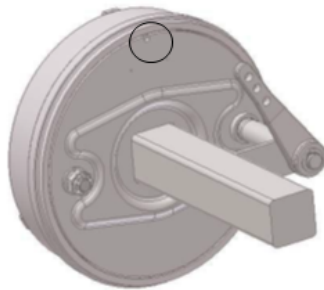

Figure 68 — Brake Inspection Window
- Check the brake clearance and the wear between the linings and the drum by looking through the brake inspection window (see Figure 68). A pushrod stroke that has increased significantly is a sign of wear.